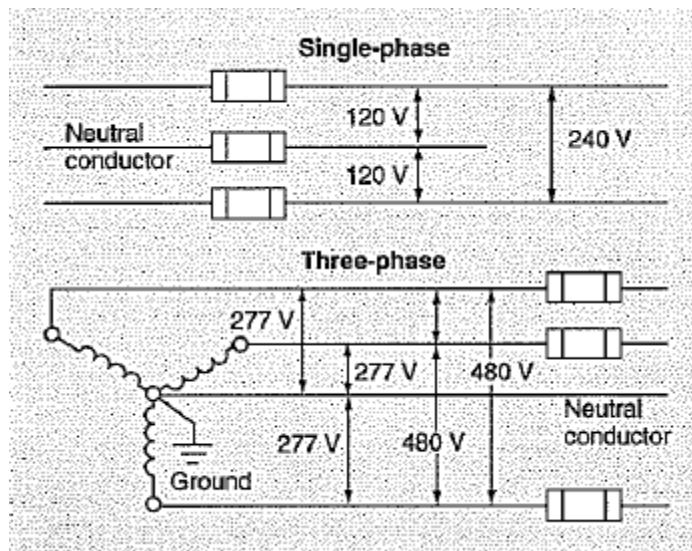

Figure 6.4: Multi-Wire Branch Circuits
- 6-19 An example of a multi-wire branch circuit is the familiar 120/240 V single-phase system shown in the upper diagram in Figure 6.4. The potential difference between the two ungrounded conductors is 240 V. The potential difference between the grounded conductor and each ungrounded conductor is 120 V. The three-phase four-wire circuit is another example of a multi-wire branch circuit. It is shown in the lower diagram in Figure 6.4. It meets the same basic requirements as the single-phase circuit.